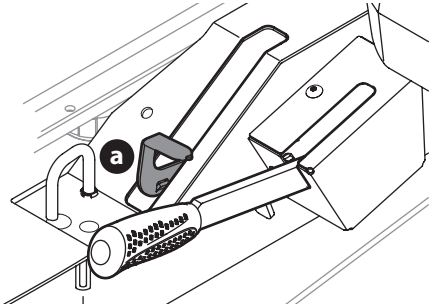

Fig. 34
1. Engage the transmission bypass valves by pulling the bypass lever (a) upward and all the way back (Fig. 34).
2. To release the bypass lever (a), push the lever forward (Fig. 34).